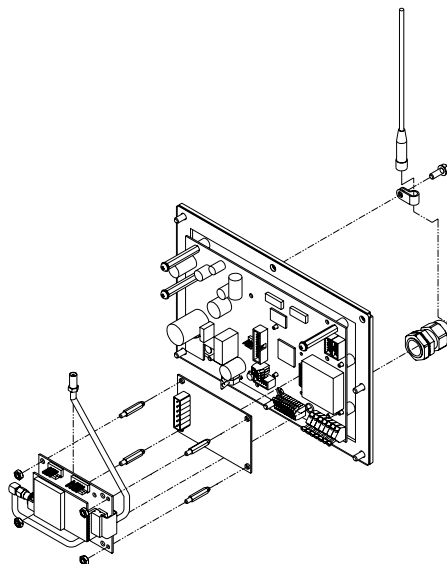

Figure 10-23: Model 460/465 RF Module Installation
2. Remove the (8) rear panel screws from the back plate of the enclosure and set it aside.
4. Screw the (4) 17-20-3019 nylon standoffs from the small bag labeled 60 Series on the four posts protruding through the 460 main board. Refer to Figure 10-23.
4. Screw the (4) 17-20-3019 nylon standoffs on the four posts protruding through the 465 main board. See Figure 10-23 for details.